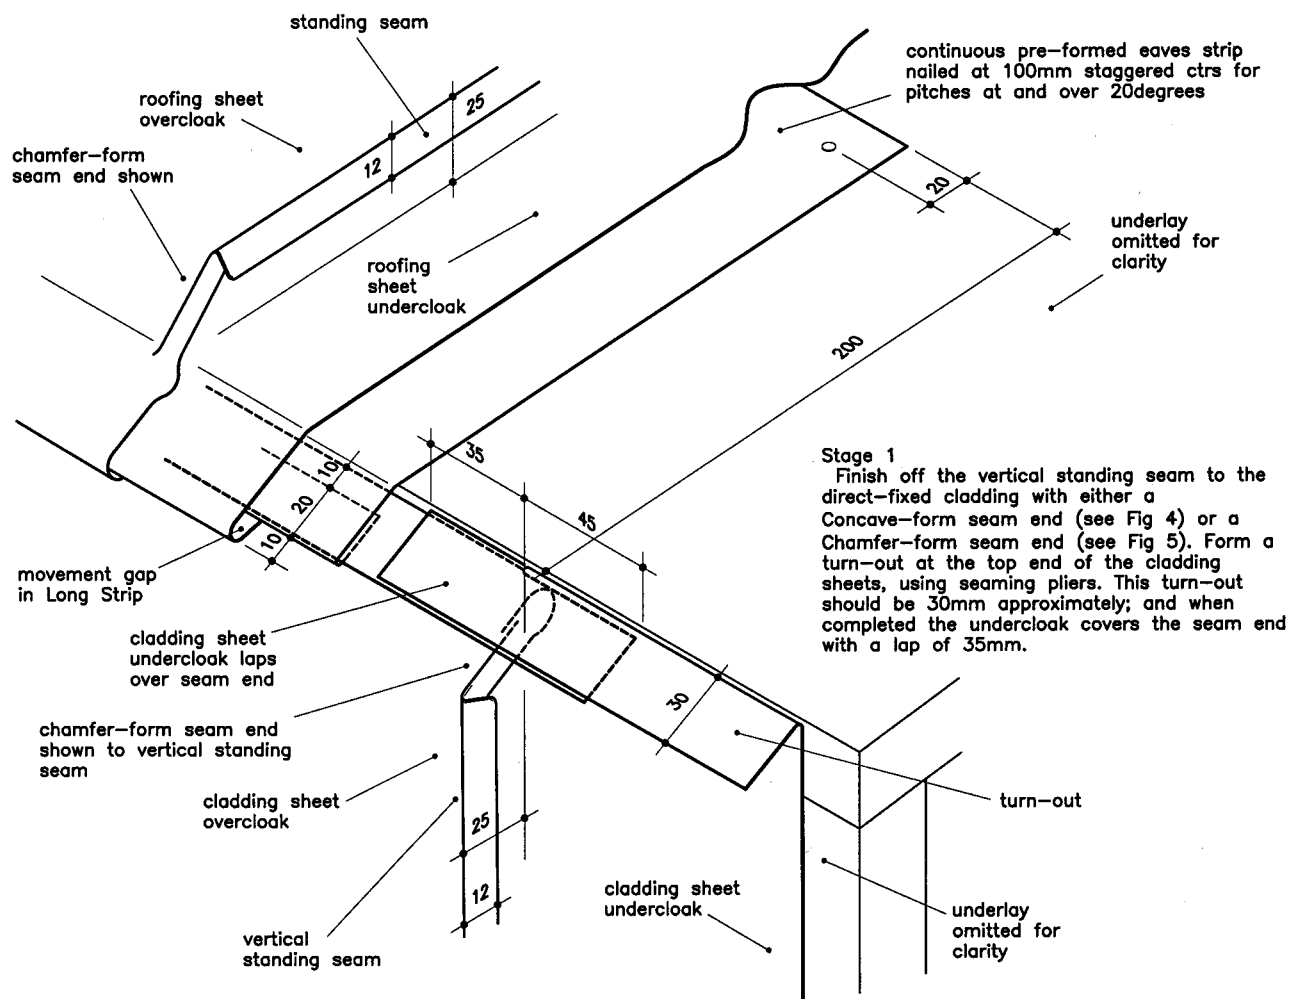

Fig 30 ... at recessed pitched valley gutter
This detail, Fig 30 (p78), together with Figs 30a and 30b, illustrates the essentials of forming a recessed pitched valley gutter in Long Strip roofing. And in Traditional roofing where either the Concave-form seam end (see Fig 4), the Chamfer-form seam end (see Fig 5) or the Square-form seam end (see Fig 6) is chosen.
The tilting fillets form what is, in effect, a recessed gutter. Recessed gutters are dealt with in detail in Fig 30 (pp77 and 78). Note that the lining plate detail will change for pitches up to 20degrees, as shown in Figs 30 and 30a.
Apart from movement joints (see Fig 30 and Tables P and T, p13), gutter linings should be laid in one piece. Individual sections are joined by brazing, or soft-soldering with the joint strengthened by copper rivets. Alternatively the gutter lining is formed from one length of copper.
* For installation sequence please refer to Fig 30 (p78).
In both Long Strip and Traditional roofing the gutter lining is free to move. However, some movement joints are still needed, so that no section of gutter exceeds 10 metres in length (see Tables P and T, p13). The most common way of forming such a joint is to use a vulcanised neoprene strip such as T-Pren. This type of movement joint is described in more detail in Fig 30 (p77). The lap-lock cross welt is also frequently used.
The most common way of forming such a joint is to use a vulcanised neoprene strip such as T-Pren. This type of movement joint is described in more detail in Fig 30 (p77). The lap-lock cross welt is also frequently used. It is important that the clips along the edge of the gutter should not hold it tightly, so that it can move in response to changes in temperature.